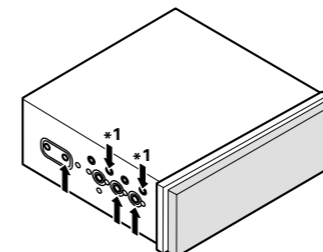
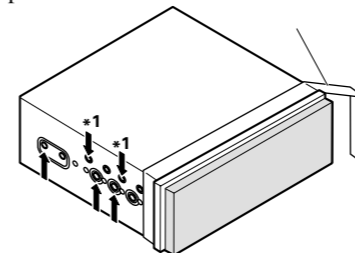
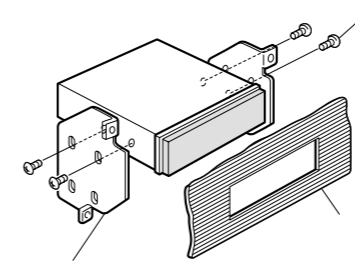

Fig. 13
Fig. 14
Fig. 15
- **Fastening the unit to the factory radio mounting bracket. (Fig. 13) (Fig. 14) (Fig. 15)**